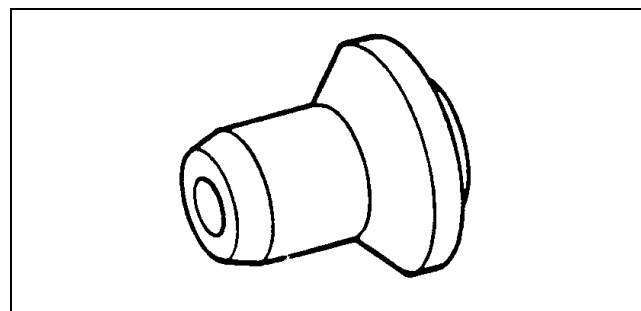

Figure 21
- TOR70153D Front Cover Seal Installer (Fig. 21)